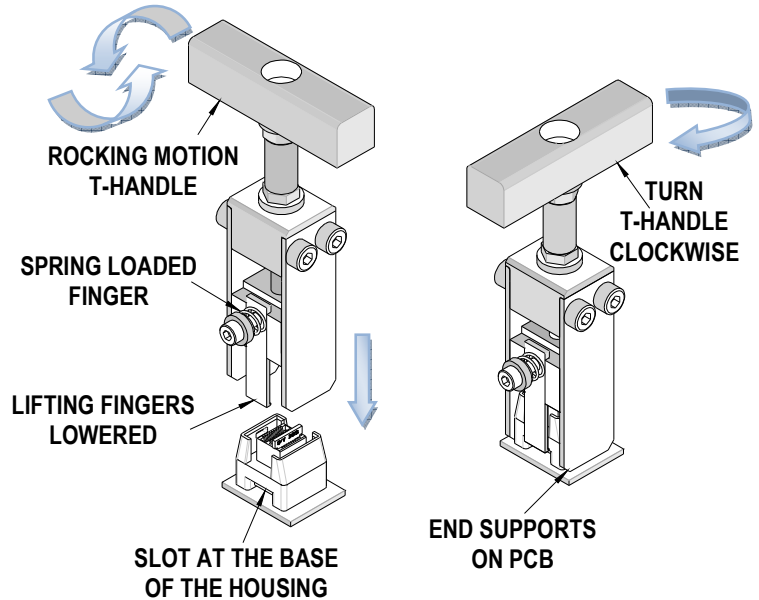

Figure 3
2. This tool has a spring loaded lifting finger on one side to assist with sliding the fingers down over the housing. Using a rocking motion, slide the lifting fingers down over the housing. Push the tool down over the housing until the lifting fingers snap into the slots at the base of the housing assembly. See Figure 3.